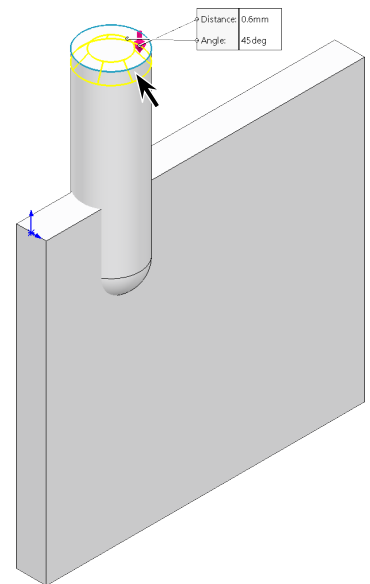

Fig. 22
- click **top circular edge of shaft**, **Fig. 22**